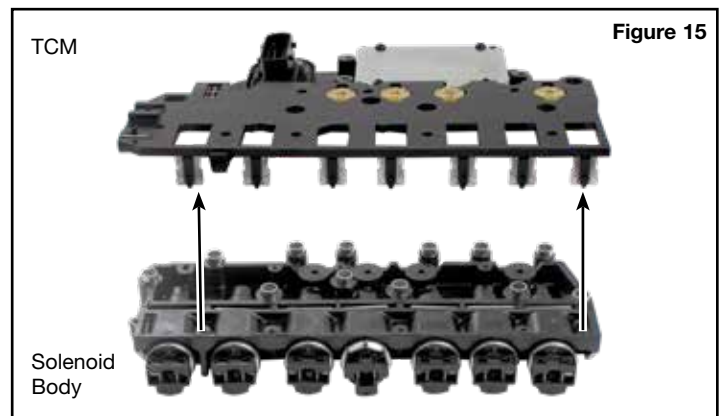

Figure 15
- b. Separate solenoid body from TCM (Figure 15). Four pressure switch laminate discs are now exposed on underside of TCM (Figure 16).